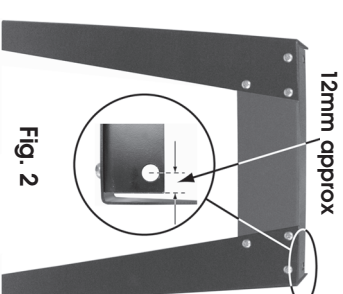

Fig. 2
NOTE: the cross members are not all identical, there are two variations and two of each, they can be recognised by the single holes at each end on the top of each cross member, these holes are different distances from the ends. (see Fig. 2 & 3 on page 8).
1. Fit two legs to each of the cross members with single holes 12mm from ends (see Fig. 2), using 6 off screws ('A'), 6 off washers ('C') and 6 off nuts ('D'), per assy, finger tight at this stage only.
NOTE: legs must be fitted on the outside of the cross member (see Fig. 2).